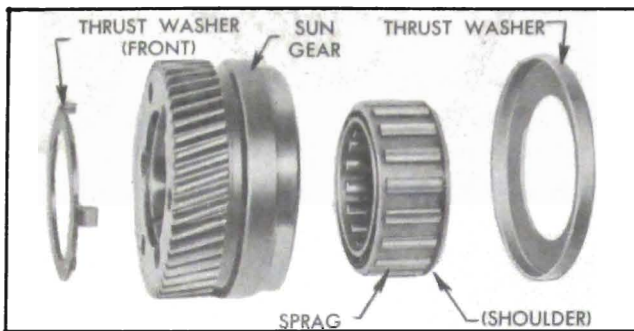

Figure 5-42—Sun Gear Parts
6. Remove the sprag (free wheel clutch) from inside of sun gear. See figure 5-42.
1. Install sprag in bore of sun gear with shouldered end outward (fig. 5-42) then carefully press the cupped thrust washer over end of gear. Use a smooth flat plate or block of